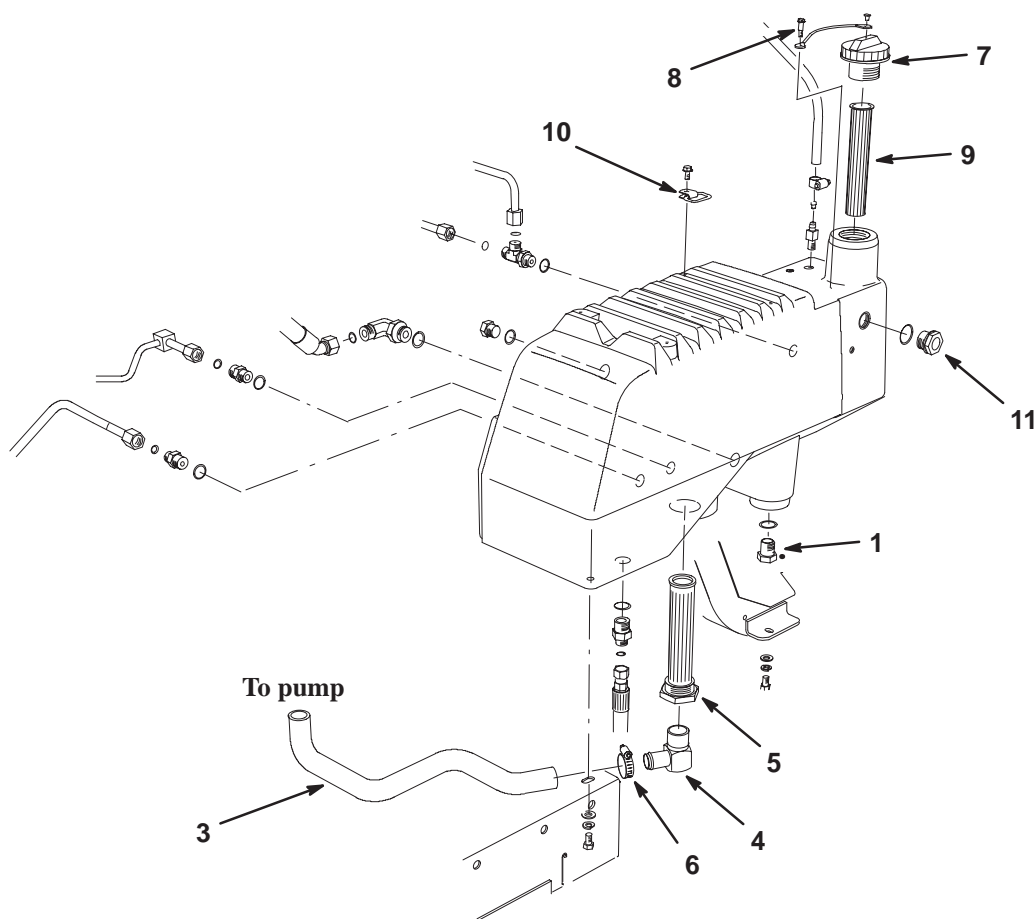
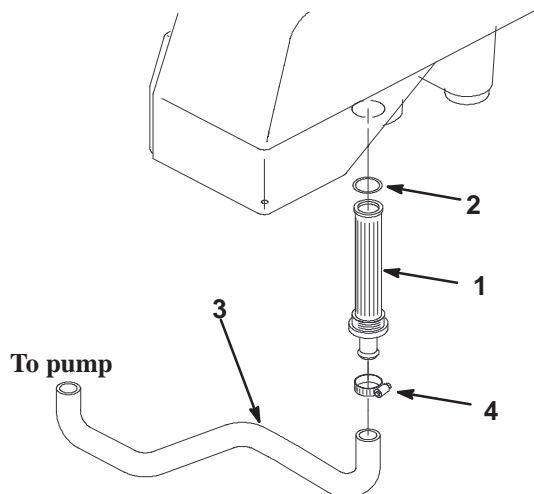

Figure 1
Figure 2
2. Remove drain plug from rear of reservoir and hydraulic line from front of reservoir (Fig. 1) and let hydraulic oil flow into drain pan. Dispose of the oil properly.
1. Remove hose clamps securing suction hose to 90 degree fitting on hydraulic tank suction strainer and from fitting on hydraulic pump (Fig. 1). Discard hose but retain hose clamps.
2. Disconnect all remaining hydraulic lines, fittings and plugs from hydraulic tank (Fig. 1).
3. Remove (4) bolts and washers securing hydraulic tank to frame and remove tank. Retain mounting fasteners (Fig. 1).
4. Remove and retain the hydraulic tank cap, shoulder screw and screen filter from filler neck of hydraulic tank (Fig. 1).
5. Remove and retain the (4) D-rings, retainers and screws from top of hydraulic tank (Fig. 1).
6. Remove and retain the sight gauge from the side of hydraulic tank (Fig. 1). Discard tank, suction strainer and 90 degree fitting.
1. Mount new suction strainer and O-ring to bottom of new hydraulic tank (Fig. 2).
2. Mount sight gauge to side of hydraulic tank (Fig. 1).
3. Mount the (4) D-rings, retainers and screws to top of hydraulic tank (Fig. 1).
4. Mount the hydraulic tank cap, shoulder screw and screen filter to filler neck of hydraulic tank (Fig. 1).
5. Mount tank to frame using (4) bolts and washers previously removed.
6. Using hose clamps Mount new suction hose to suction strainer on hydraulic tank and to pump fitting (Fig. 2).